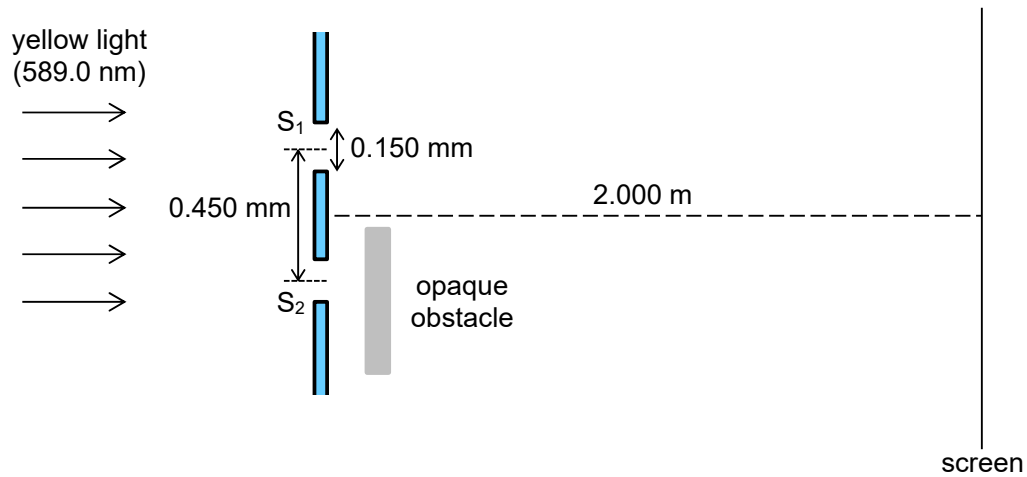

Fig. 21.1 (not to scale)
- 21 (a)** In an experiment to demonstrate the double-slit interference pattern, parallel light of wavelength 589.0 nm from a sodium lamp is incident on a pair of slits S_1 and S_2 each of width 0.150 mm and separated by 0.450 mm . The interference pattern is observed at a screen located 2.000 m away from the slits as illustrated in Fig. 21.1.
- (d) The yellow light from the sodium lamp consists of a second wavelength of 589.6 nm. To show the presence of this wavelength, the double slit of Fig. 21.1 is replaced by a diffraction grating of 500 lines per mm.